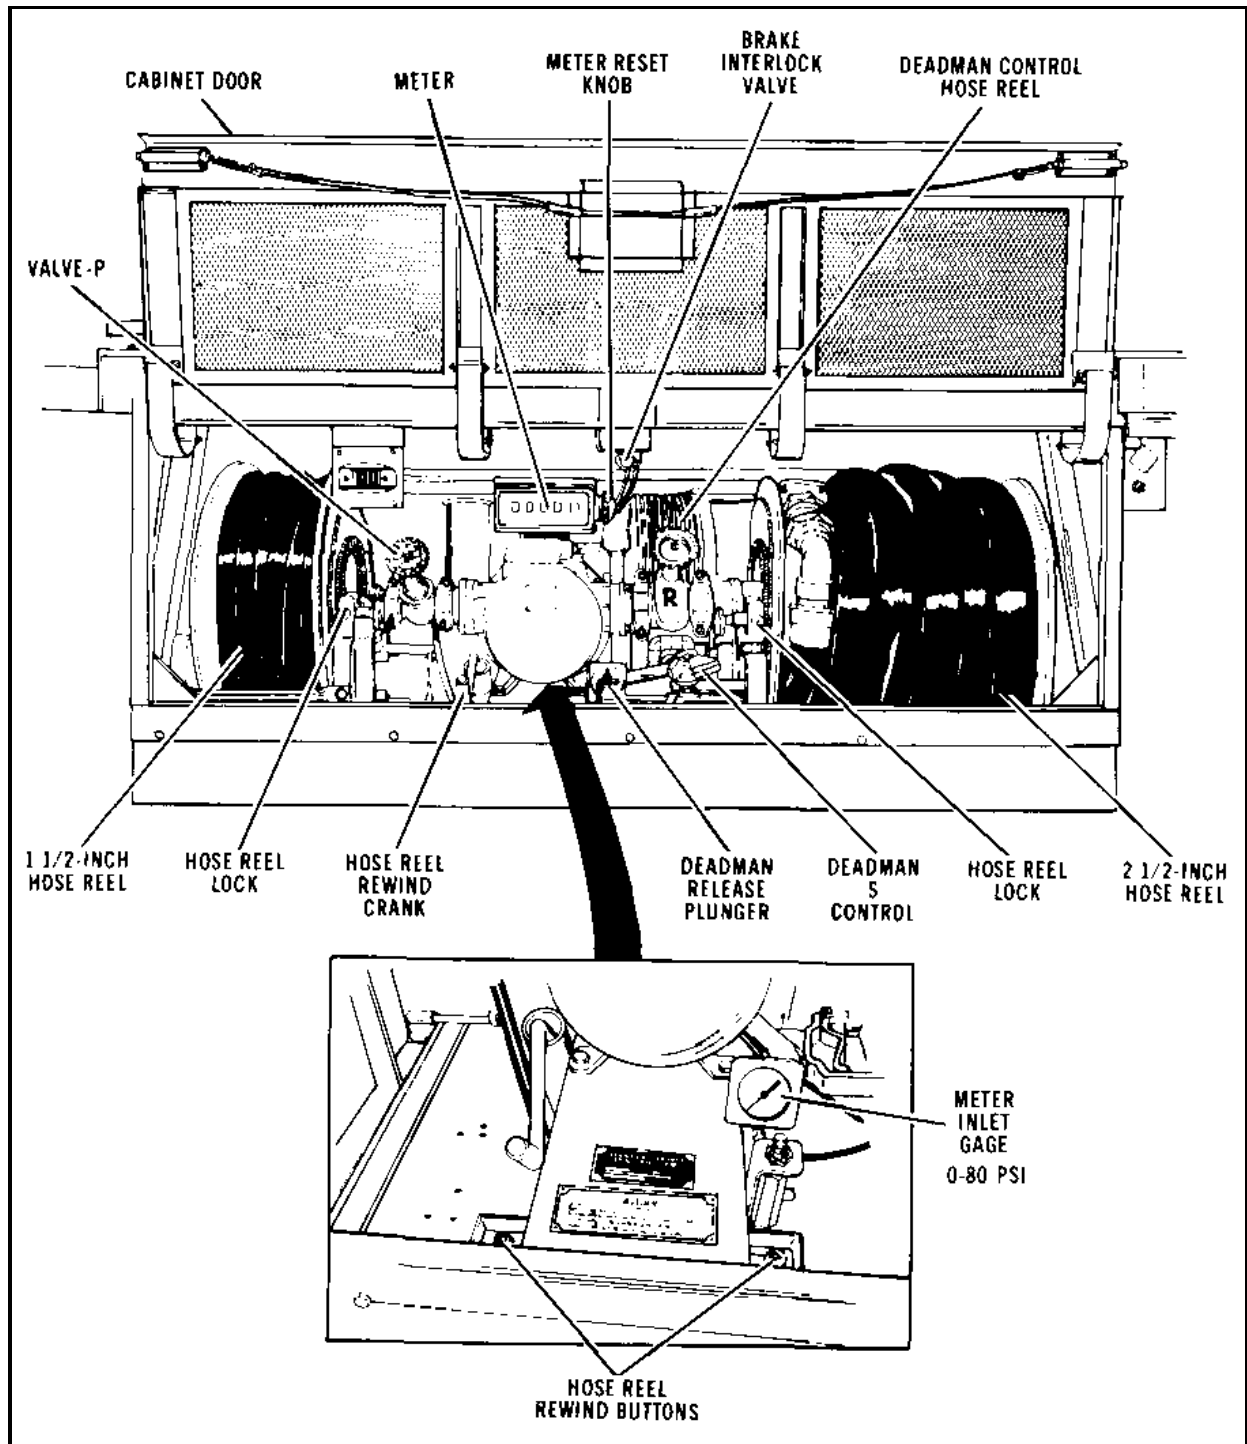

Figure 24-23. Hose reel cabinet of M970 tank semitrailer
- Tank body and equipment. In addition to the equipment on the M967, the M970 has special-purpose equipment required for overwing and underwing aircraft refueling. This equipment is mounted on the sides of the vehicle. A filter/separator, a pump and engine compartment, the engine's fuel tank, a landing gear crank, an emergency shutoff valve, a hose trough, and a battery compartment for two batteries are on the curbside of the vehicle. A hose trough, a portable grounding rod, a ground board, a toolbox, a piping assembly, a control panel, the manifold valving, and a hose reel cabinet as shown in Figure 24-23, page 24-21, are on the roadside of the vehicle.